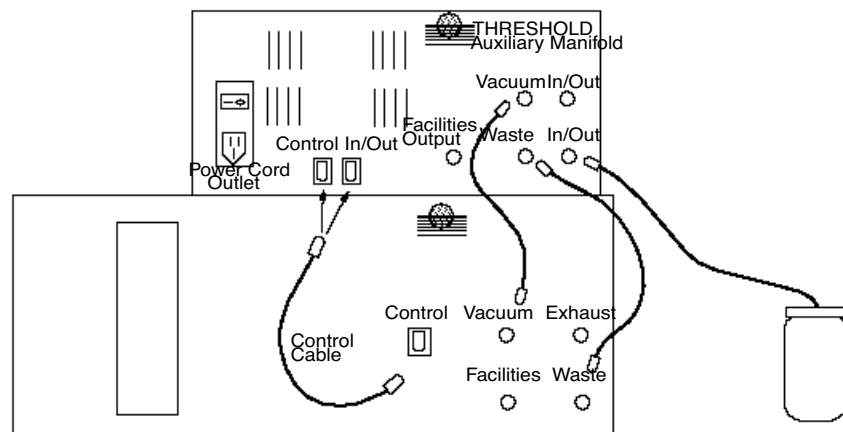
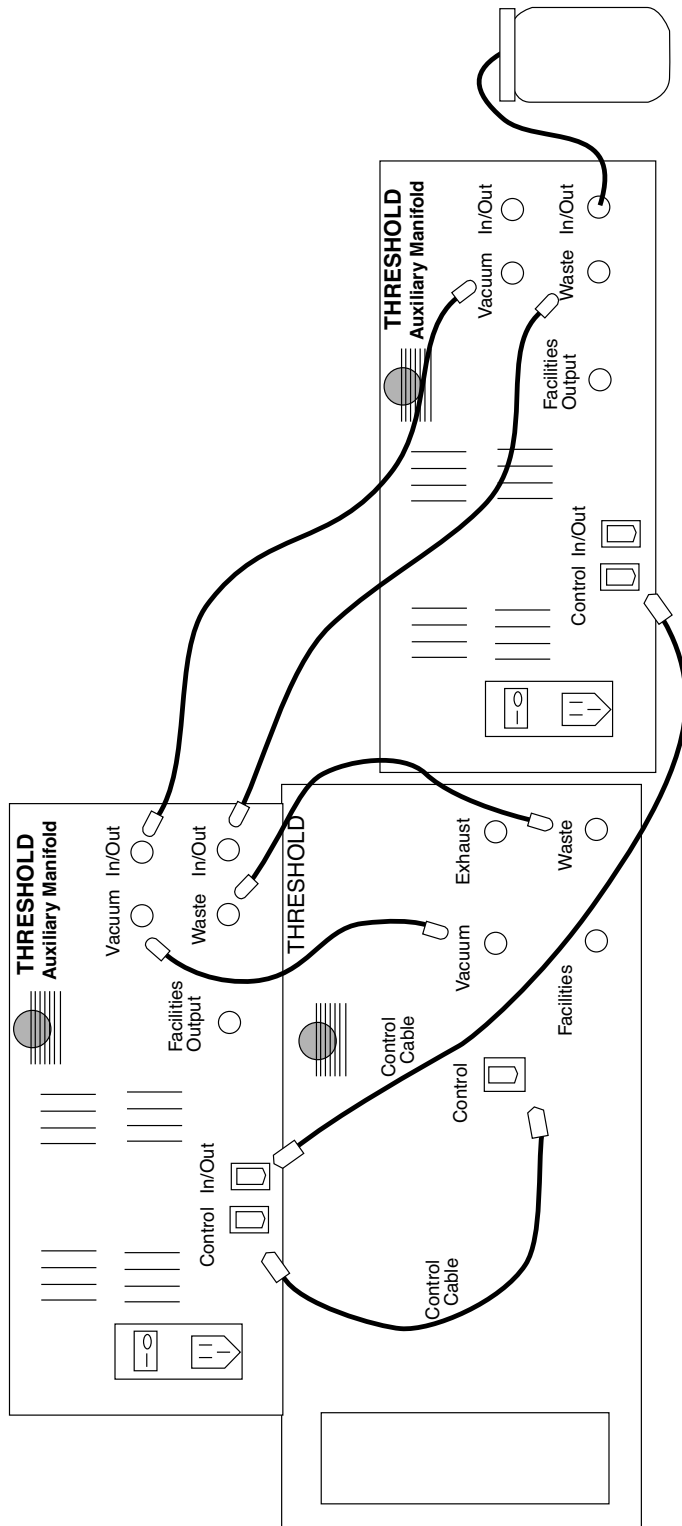

Figure 2-5: Auxiliary Manifold Connections
Figure 2-6: Connecting a Second Auxiliary Manifold
- 3) If there is an Auxiliary Manifold, place it on top, or to one side, of the Workstation (Figure 2-5 and Figure 2-6).
- 2) To connect either 1 or 2 Auxiliary Manifolds to the Threshold Workstation, see instructions below and Figure 2-5 and Figure 2-6.
- 2) Plug into either vacuum IN/OUT port on the Auxiliary Manifold (Figure 2-5).
- 3) Attach the waste tubing to a waste port on the second Auxiliary Manifold. This serves the entire system. The waste tubing is attached to a waste port on the second Auxiliary Manifold and serves the entire system (the Workstation and both Auxiliary Manifolds, Figure 2-6).